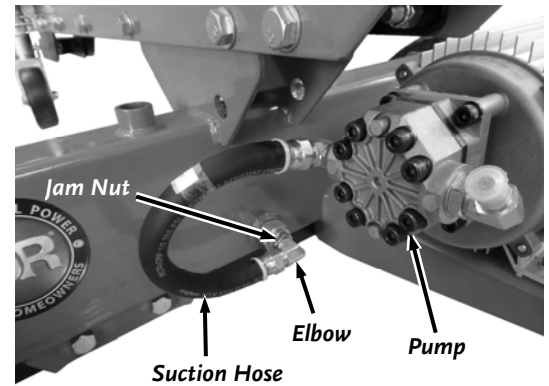

Figure 12
18. Install the Elbow Hydraulic Fitting into the Tank assembly by hand until it cannot be turned any more with your hand. If needed, turn the Elbow back to align it parallel with the ground and facing out (**Figure 12**).